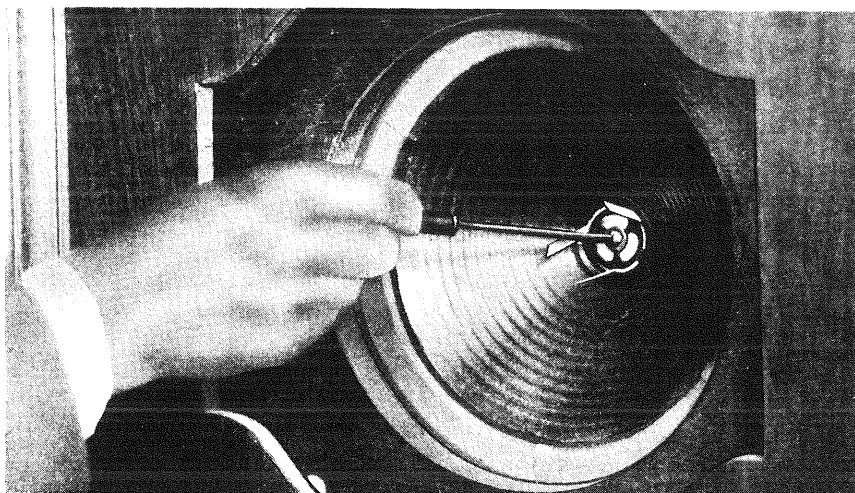

Figure 20—Adjusting the position of the cone
- (c) Place three small cardboard strips, about $1\frac{1}{2}$ " x $\frac{1}{4}$ " and the thickness of a visiting card, through the center web of the cone into the space between the pole piece and cone. This will give the cone coil the same clearance on all sides of the pole piece. Figure 20 shows this operation.